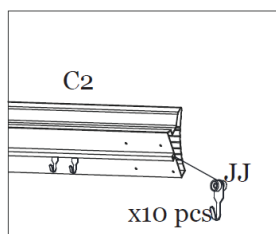

Figure 2-4
Step 2D: Insert ten Mosquito Netting Hooks (JJ) into the channel of each Short Lintel C2. See Figure 2-4.